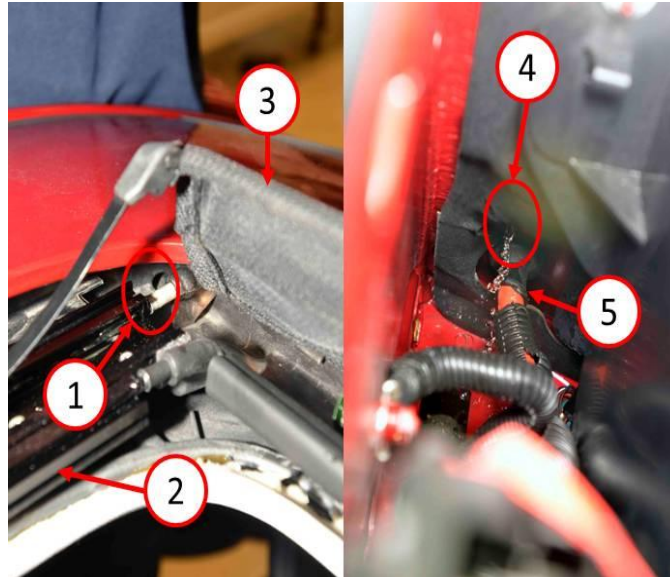

Fig. 8 Inspect Sunroof Drain Tubes
14. Water flow test the sunroof drain tubes using approximately 16 ounces (500mL) of water to verify possible obstructions and/or leaks (Fig. 8).
NOTE: Make sure the dash panel pass-through grommet (5) (located below passenger side drain tube grommet) is fully seated in the dash panel. Water from the sunroof drain tube (4) could leak into the vehicle interior unless grommet is fully seated.(Fig. 8).
17. Access and reseal (2) the “knife edge joint” (3) between the body side Inner and body side reinforcement using Kent P10200 High-Tech Clear seam sealer or equivalent.